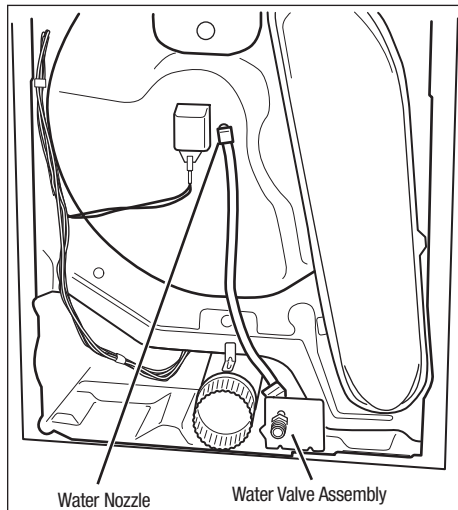

Figure 12. Water valve.
- Check that the wires and hose are connected to the water valve assembly. See figure 12, page 8.